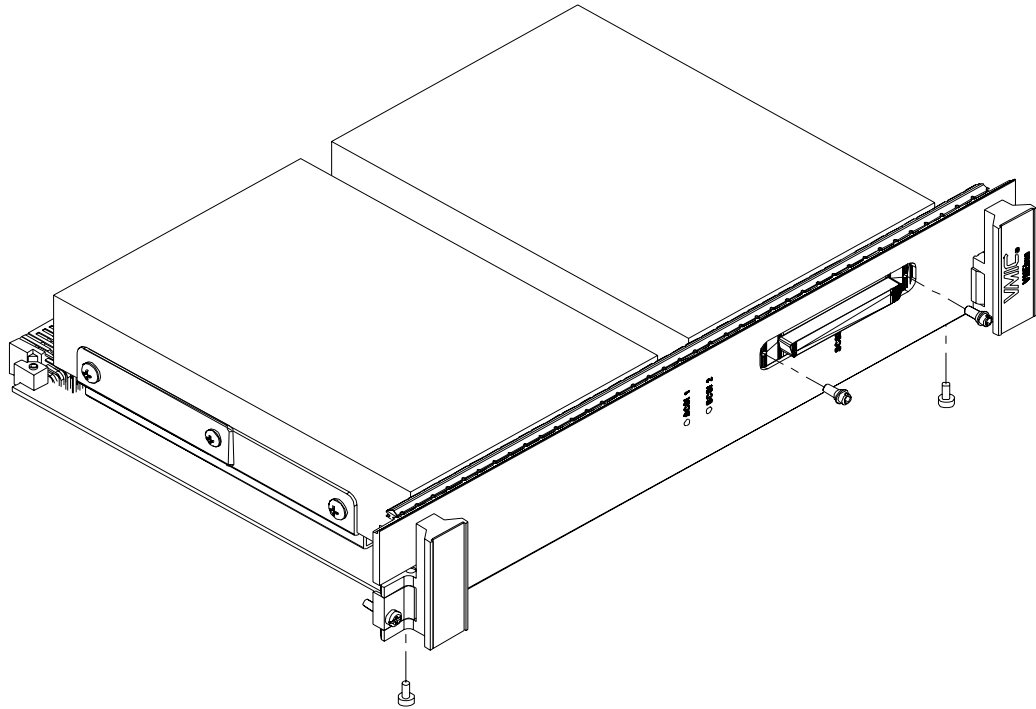

Figure 1-13 Installation of the Front Panel
7. Using the two screws and the two jack screws removed in step 1, secure the front panel to the board. Installation is complete (see Figure 1-13 below).